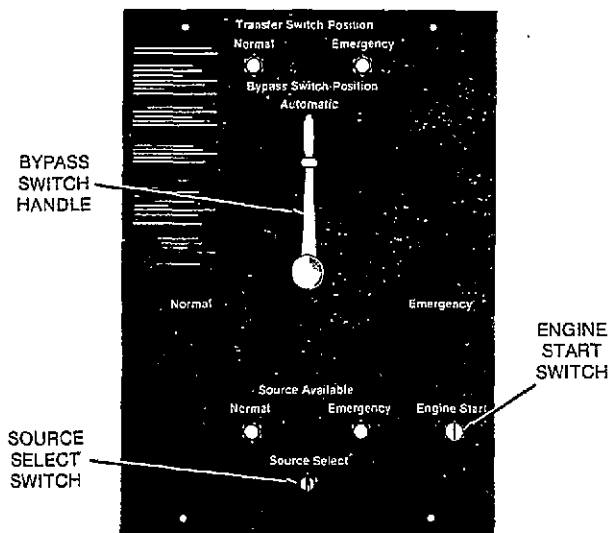

FIGURE 12. BYPASS SWITCH
1. Turn the Source Select switch to the **normal** source and move the bypass switch handle to the **normal** source position (see Figure 12). Release the Source Select switch.
The operator can manually bypass the load to the normal source or to the emergency source if it is necessary to isolate the transfer switch for servicing. If bypassing the load from the normal source to the emergency source, start the generator set before proceeding. A key operated Engine Start switch is located on the cabinet (see Figure 12) for this purpose. Turning the Engine Start switch will initiate the generator set start sequence. Use the following procedures to isolate: